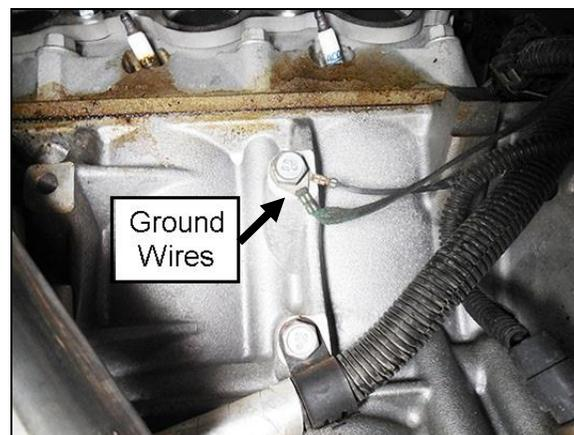

Figure 2
4. Remove the 2 lower engine mount nuts at the location shown in **Figure 2**. Raise the engine approximately 1 to 1.5 inches or until the engine mount studs are flush with the bottom of the K-member. Do not force the engine up into the engine compartment, as it should lift off the mounts easily. **STOP LIFTING WHEN YOU FEEL RESISTANCE!!**
5. Remove the 15mm bolt on the driver's side of the engine connecting the ground wires to rear of the block (**Figure 2**).